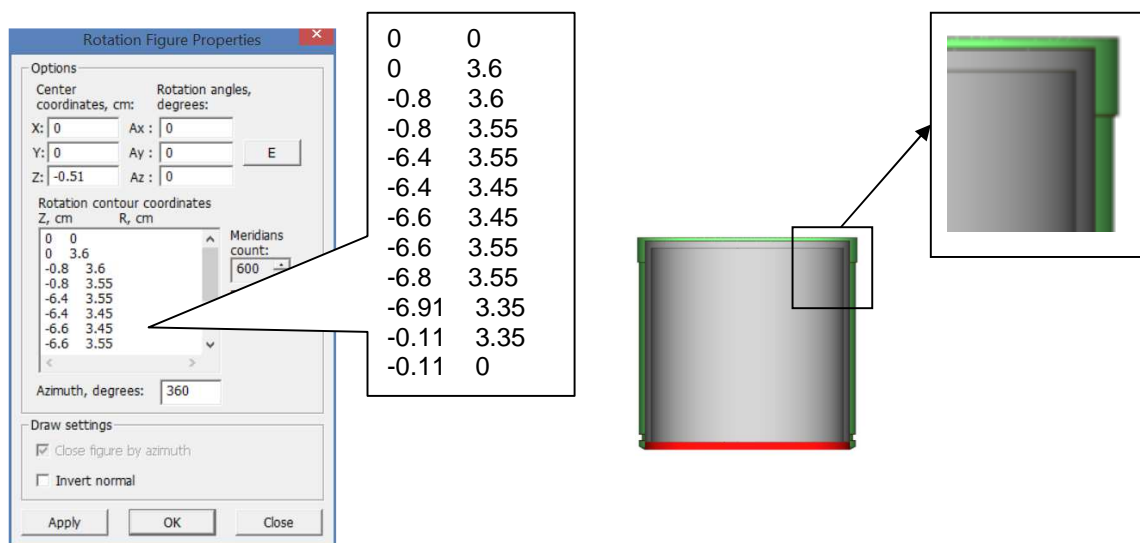

Figure 53.3
7.3 Add the element 'crystal housing'. To do this in the right pane click the button **New Element** and enter the name 'Crystal housing'. Next, choose from the list the type of surface **Rotation figure**. In the dialog window **Rotation figure parameters** enter the data for the construction as shown in Figure 53.3 [Section 3.2].